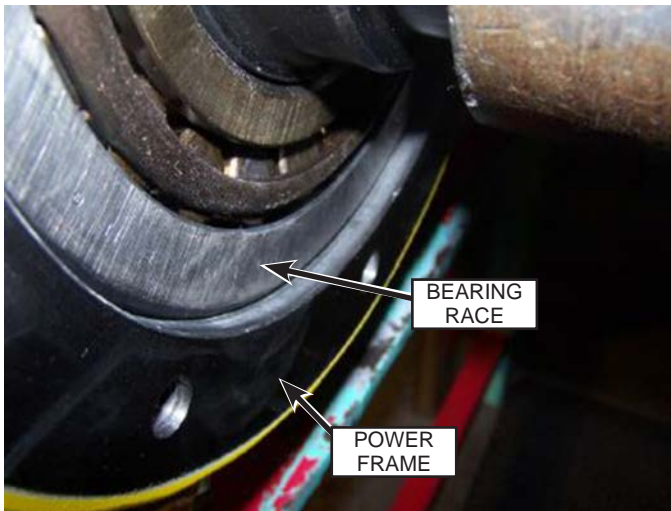

Fig. 160: Crankshaft Seating
10. Using a wood block and a hammer, hit either end of the crankshaft to seat it in the bearing bore. Ensure the outer bearing race (Fig. 160) is inside the power frame case.